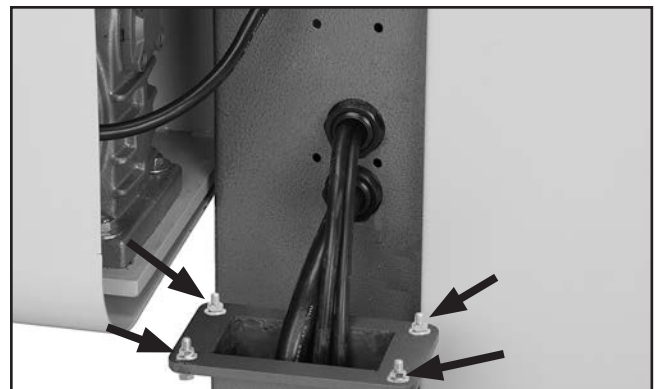

Figure 10. Control panel mounting bolts.
7. Remove the bolts, flat washers, and hex nuts from the control panel support arm, as shown in **Figure 10**.